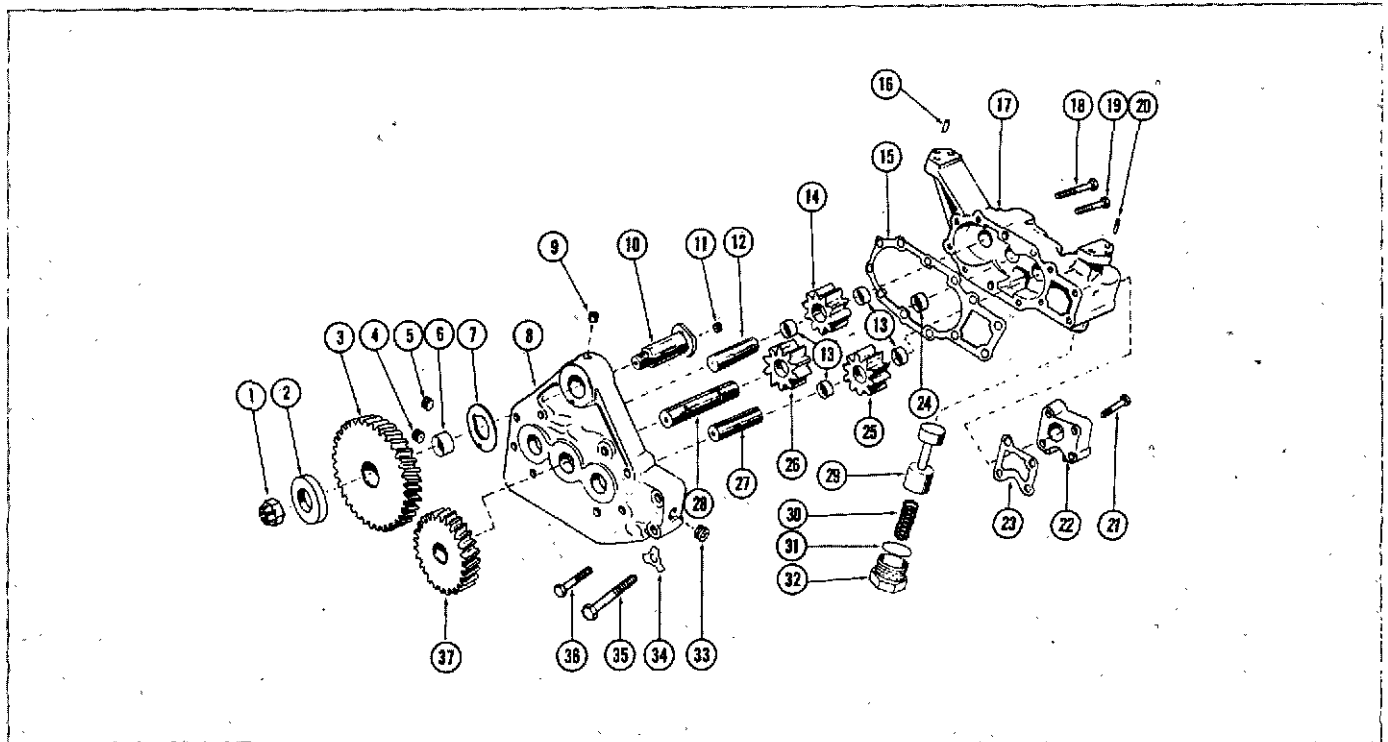

Fig. 7-6-2, V40729. Lubricating oil pump-exploded view
1. Refer to Fig. 7-6-2; remove capscrews (35, 36, 18, 19) and lockplates (34) securing pump body (17) to cover (8).
2. Use ST-1115 Cover Puller or carefully drive cover (8) (with soft hammer or brass punch) from body (17) and remove gasket (15); shafts (12, 27) for idler gears serve as dowels.
3. Remove idler gears (14, 25) from shafts (12, 27); remove shafts from pump body (17); if worn, see Table 7-6-1.
4. Remove Huglock nut (1), retainer washer (2), intermediate drive gear (3) and thrust washer (7); press out shaft (10).
5. Press drive gear (37) from drive shaft (28).
7. Press internal gear (26) from shaft (28), if shaft or gear is worn or damaged.
8. Remove plunger cap (32) and gasket (31); remove plunger (29) and spring (30) from body (17). Fig. 7-6-2.
1. Place plunger (29, Fig. 7-6-2) and spring (30) in body; secure with gasket (31) and cap (32).
2. Press internal drive (driven) gear (26) onto short end of drive shaft (28) until shaft extends through gear 1.020 to 1.040 inch [25.9080 to 26.4160 mm] if removed.
4. Press external drive gear (37) on drive shaft, leaving 0.061 to 0.063 inch [1.5494 to 1.6002 mm] end thrust.
5. Press in intermediate drive gear shaft (10) until it seats; mount thrust washer (7), intermediate gear (3), retainer washer (2) and Huglock nut (1). Torque Huglock nut (1) to 50 ft-lb [6.9150 kg m].
7. Place gasket (15) on pump body (17); assemble cover (8) to body; press together, using pilot capscrews near each end to pilot gasket.